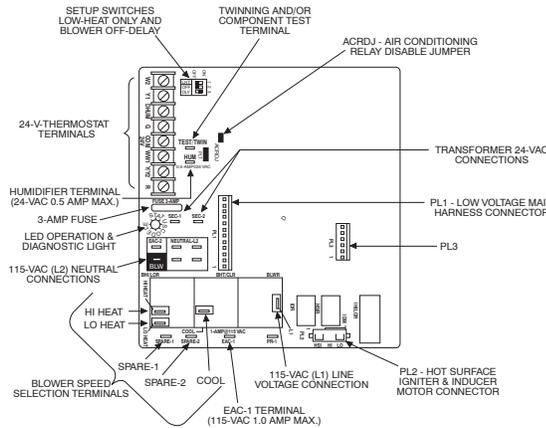

Fig. 32 - 80% Furnace Control Board
5. Turn Setup Switch SW1-2 (LHT) on furnace control ON (see Fig. 32.)